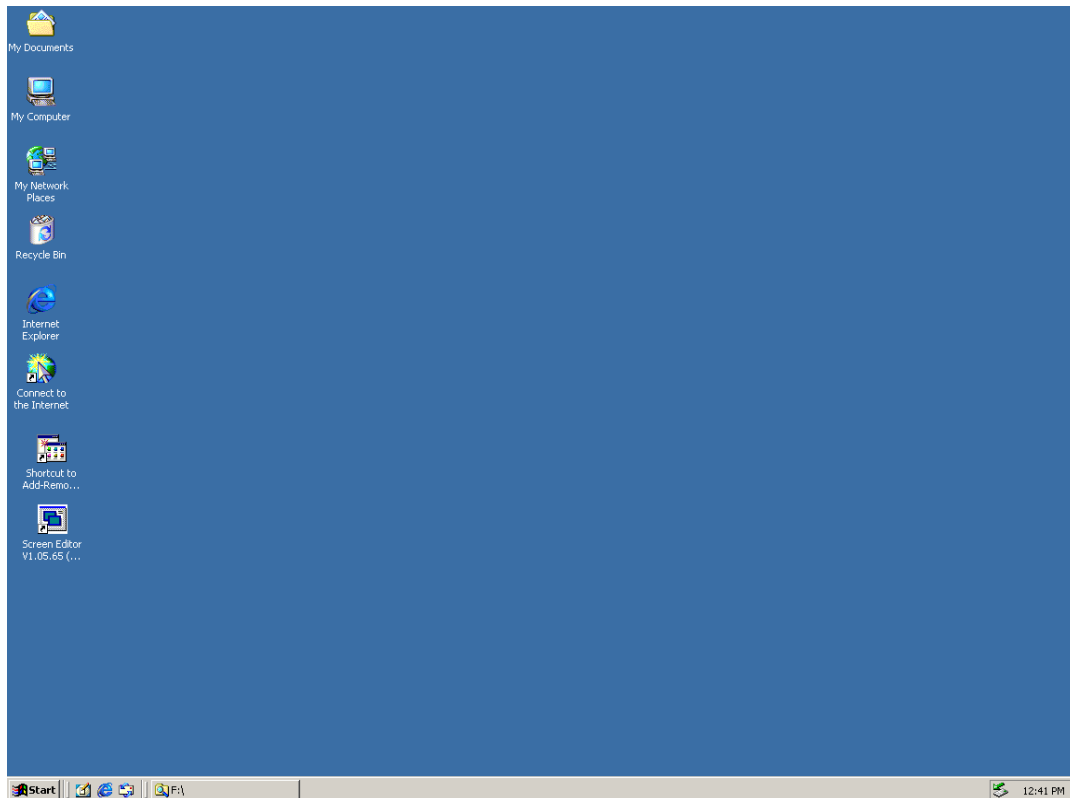

Fig. 3-1-1 Open Microsoft Windows
Step 1: Please start-up your computer to Win2000/WinXP system (Fig. 3-1-1).